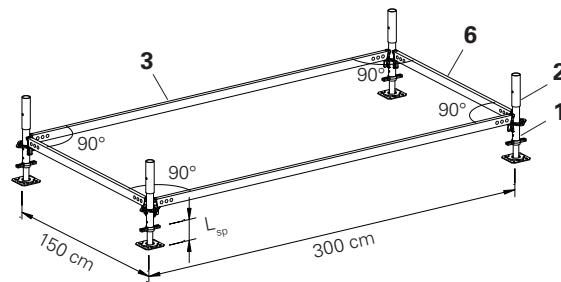

Fig. A3.01a
$L_{sp} \leq 20$ cm. (Fig. A3.01a)
- All ledgers must be at a 90° angle to each other. (Fig. A3.01a)